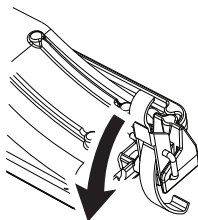

Fig. 58
5. Remove the combustion control unit from the boiler by releasing the over-centre catches that secure it to the heat exchanger (Fig. 58).